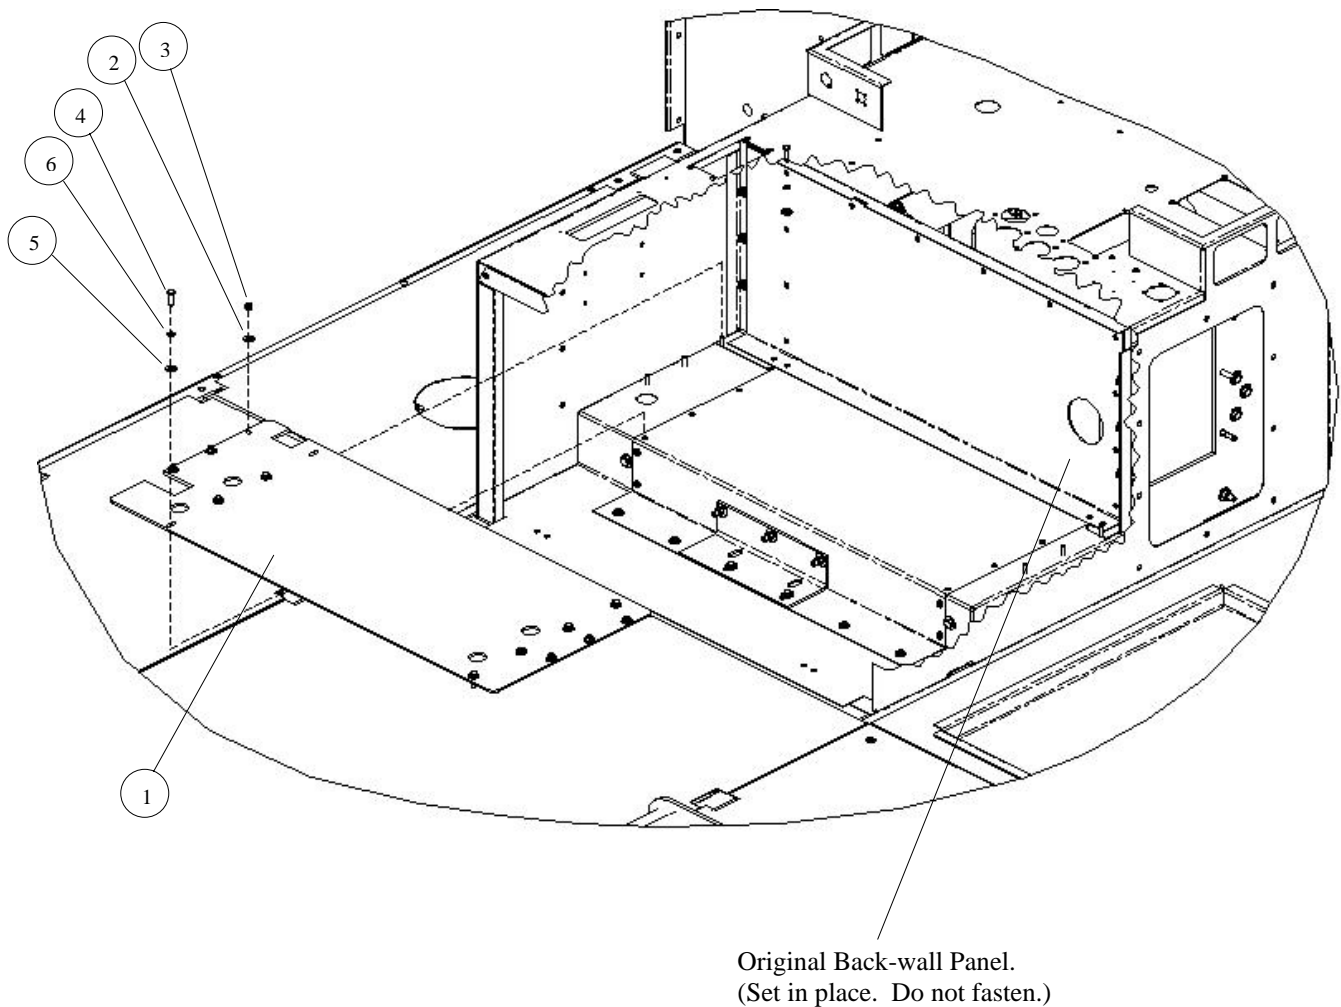

**Figure 3-72. Doghouse Upper Bracket Installation.**
4. Install doghouse upper bracket as follows (see Figure 3-72):
- b. Install doghouse upper bracket (1) and secure with two bolts (2), flat washers (3), and lock washers (4). Torque bolts to 7 lb-ft.